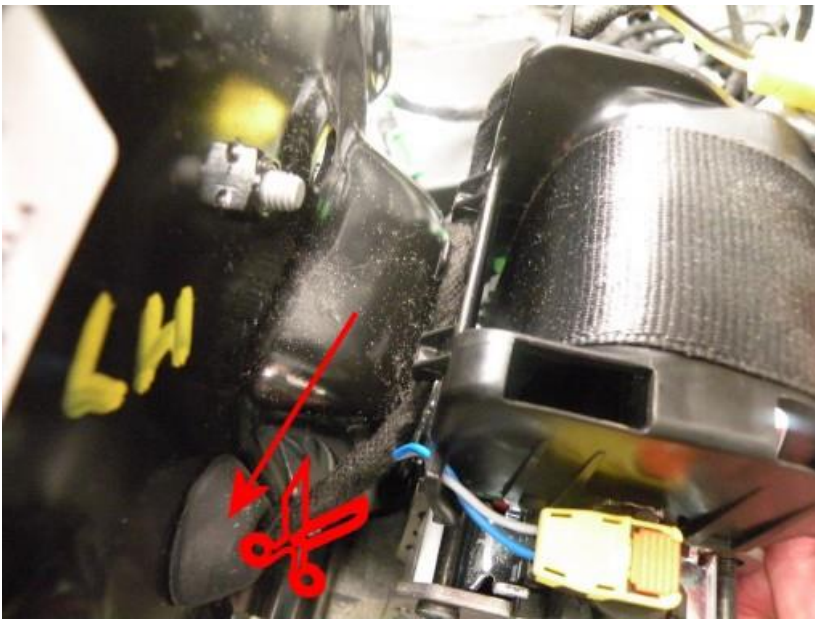

Figure 7
16. Referencing figure 7 cut the plugs off the harness, push out the grommet (arrow) and discard. Tape back the now redundant end of the harness